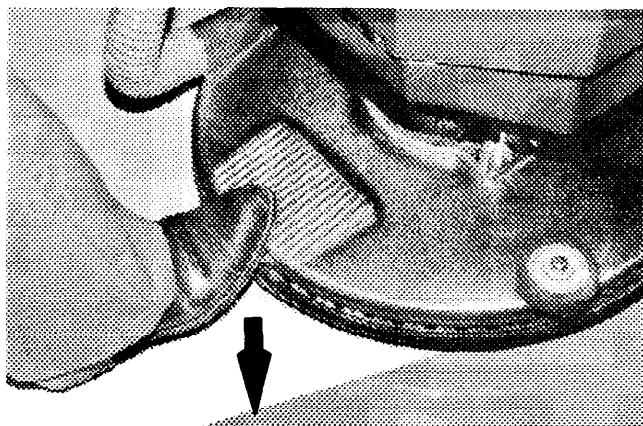

FIG. 5.
2. With the control grips released, step down on the rear of the pad shroud until the head locks in the down position. (Figure 5)
2. With the control grips released, step down on the rear of the pad shroud until the head locks in the down position. (Refer to Figure 5)